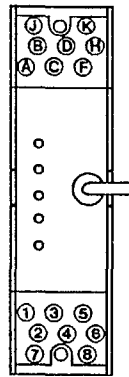

Figure 4.1 Terminal Arrangement
- (1) When wiring the terminals, use round crimping terminal lugs at the end of cable conductors.
- (2) If an internal assembly is accommodated in a rack case, pull the terminal cover forward to do the wiring.
- (3) For wiring to each terminal, connect the cable conductors referring to Table 4.1 (Figure 4.1 shows the terminal arrangement).
- (4) After wiring, be sure to put the terminal cover back on. The terminal cover also serves as a lock to prevent the internal assembly from falling off. Confirm that the internal assembly is securely inserted into the case.